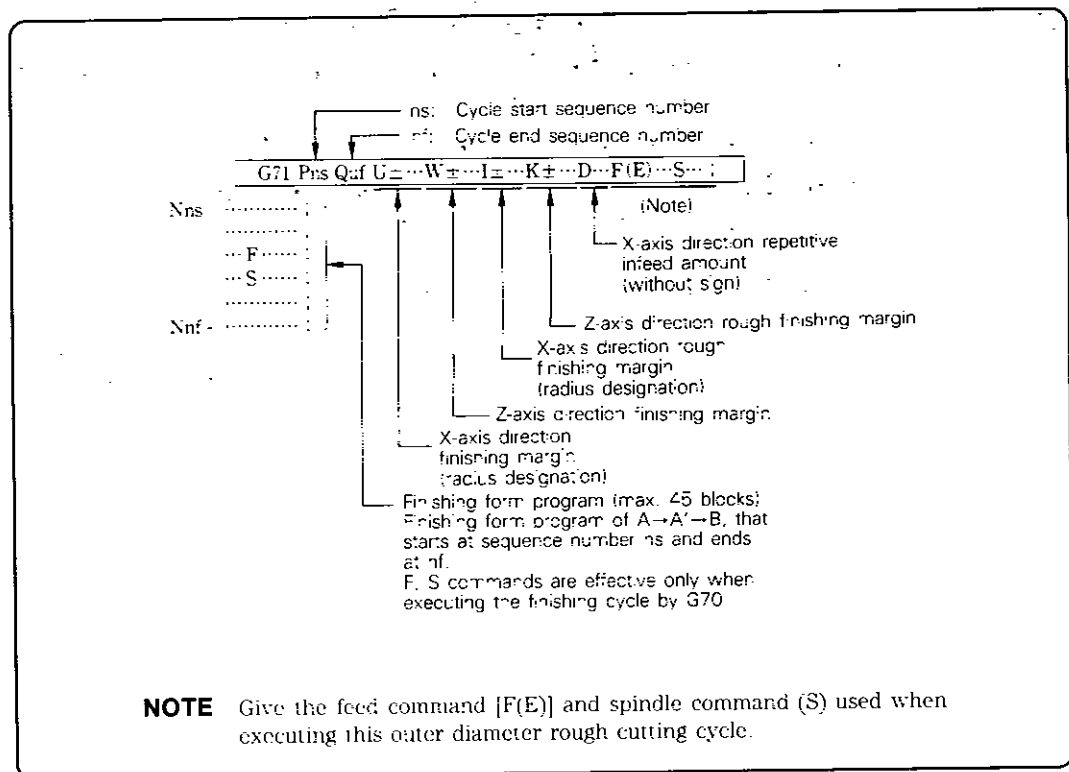
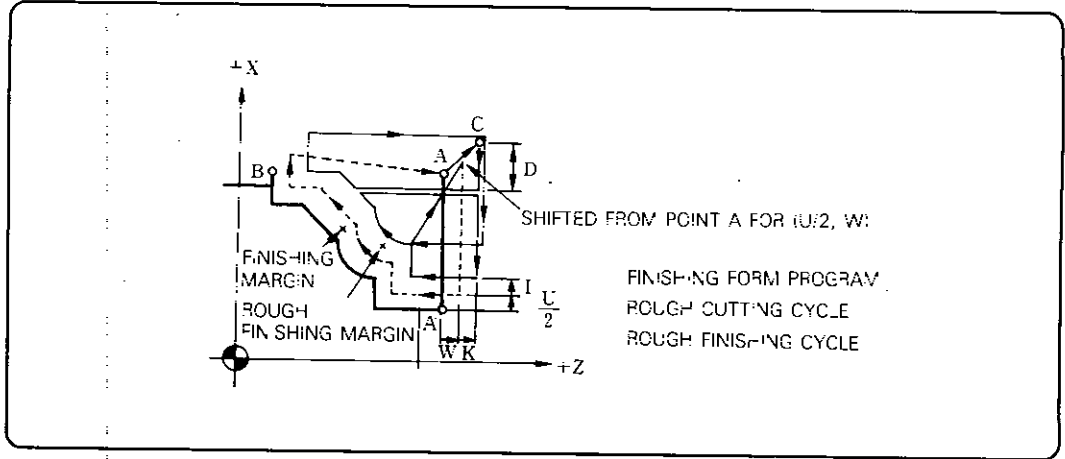

Fig. 2.13.11 Cycle Command
Fig. 2.13.12 Execution of Cycle
- (a) The cycle shown in Fig. 2.13.12 is executed by the sequential command of Fig. 2.13.11.